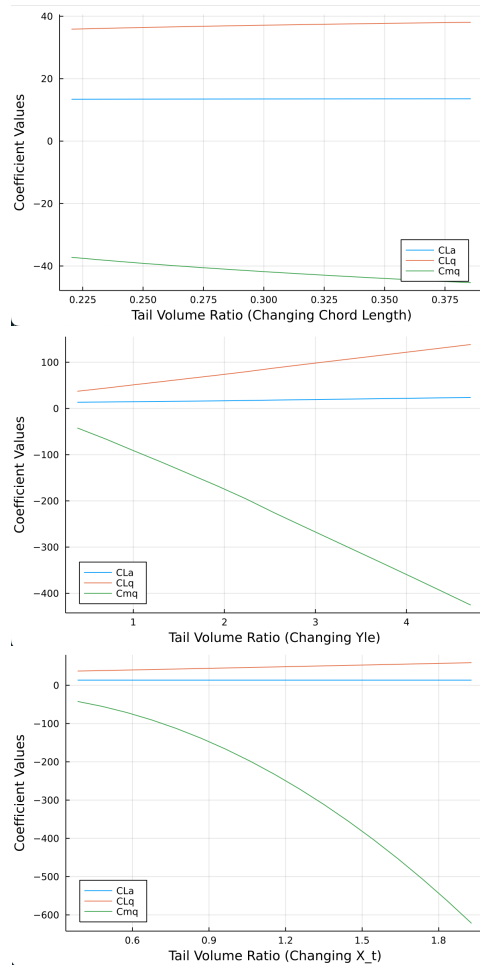

Figure 10: Larger Magnitude Stability Derivatives
- In figure 10, the derivative Cm_q , which is the derivative for pitching motion,